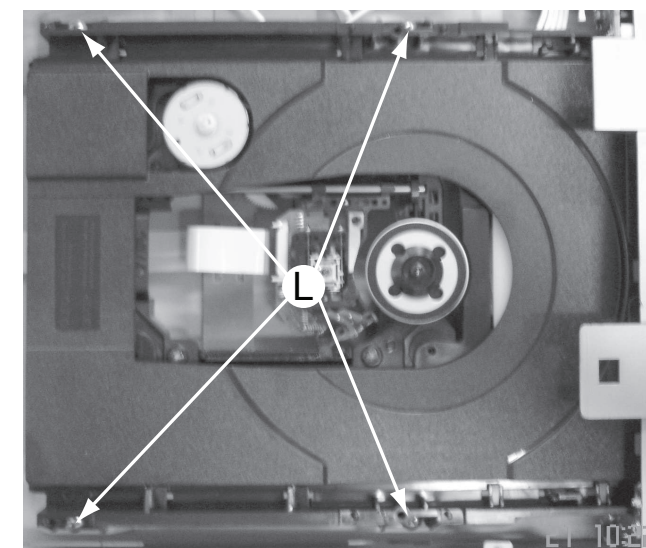

Figure 15
- 1) Loosen 4 screws "L" as shown in figure 15.